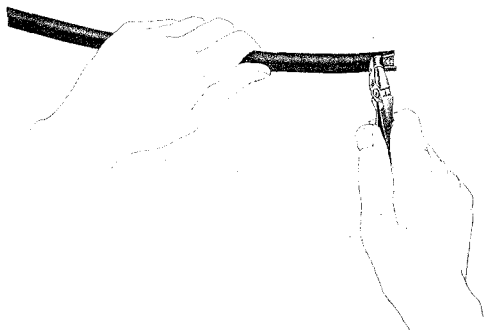

Fig. 2 — Rolling the Jacket with Diagonal Pliers
(1) Make two longitudinal cuts opposite each other on the multiple drop wire by means of the large groove of the C braid stripper.
(2) Grip the jacket at the wire end with diagonal pliers and roll the jacket back on itself as illustrated in Fig. 2.